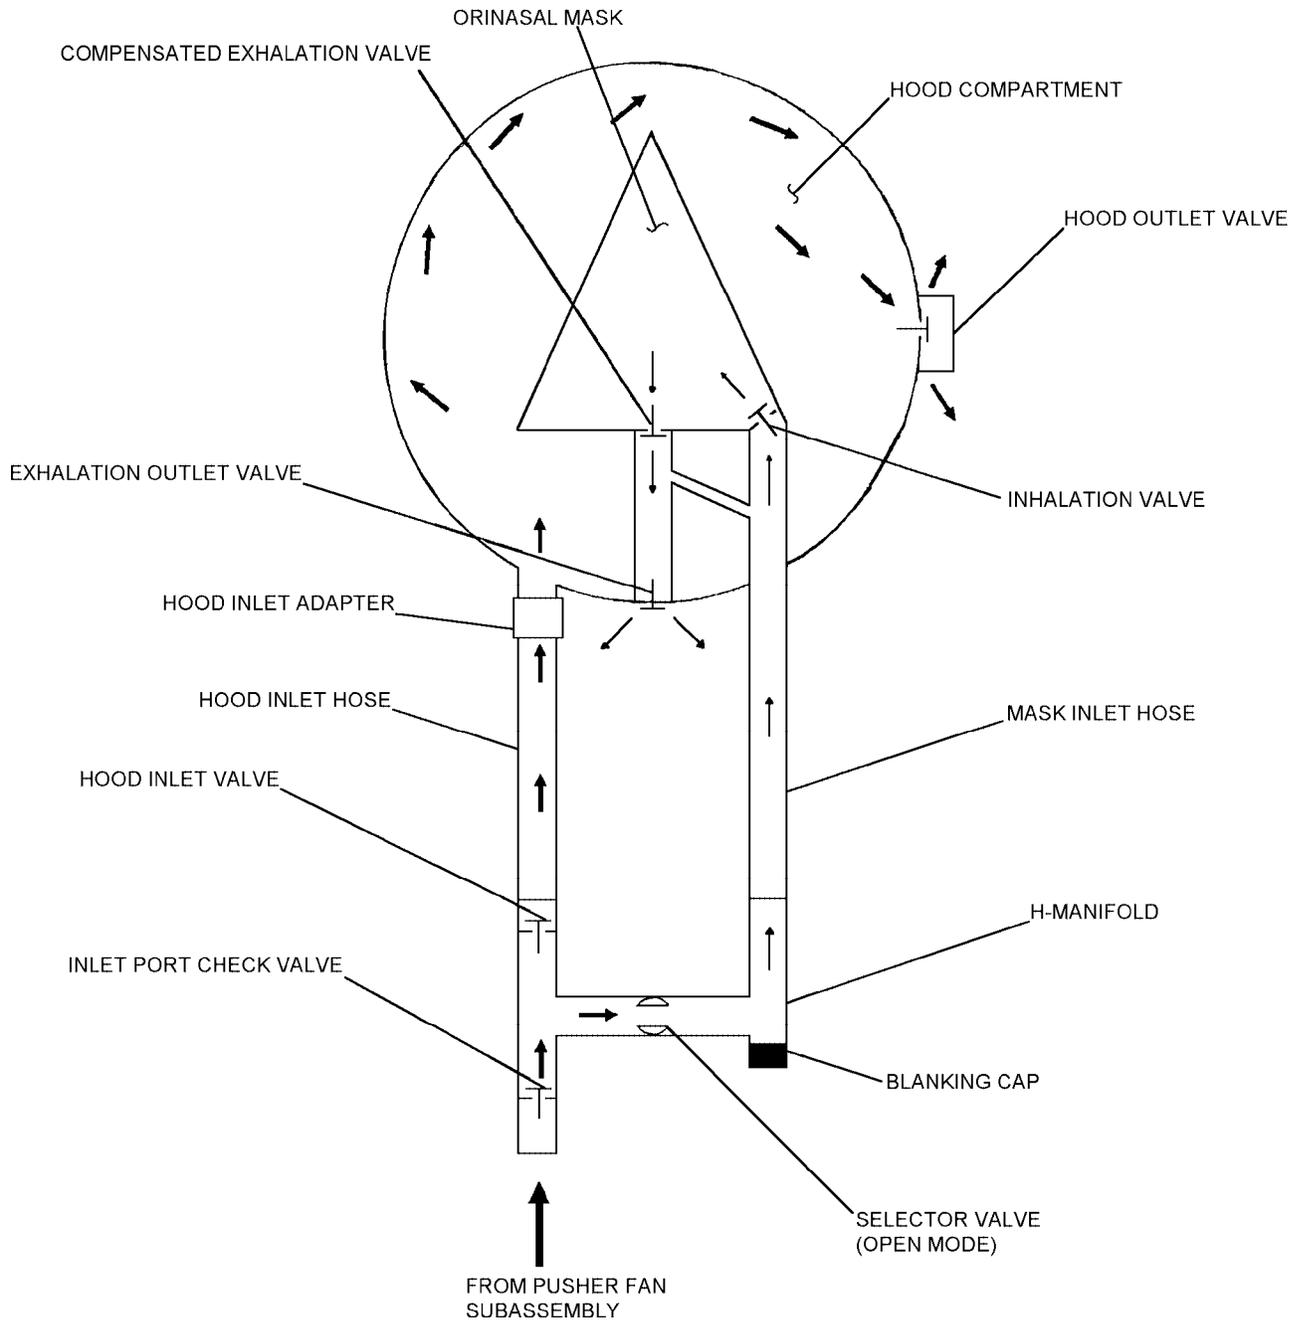

Figure 4-34. Filtered Air Flow to Orinasal Mask and Hood Compartment - (V)1 Only
4-63. Mask. The inside of the mask is divided into two compartments (figure 4-34 and figure 4-35). The mask compartment is made up of the orinasal area within the orinasal mask and the hood compartment comprises remaining area. This configuration provides for separate breathing and ventilation areas and allows pressurized oxygen supply ((V)2 through (V)4 only) to the orinasal mask reducing the breathing effort required. The air supply to the hood maintains a positive pressure which prevents contaminants from entering and reduces wearer heat stress even in hot and humid conditions, while providing faceplate defogging.
**4-70. Lower Assembly.** The (V)1 variant lower assembly provides the aircrewmember with filtered air for both the hood compartment and orinasal mask (figure 4-34). The (V)2 through (V)4 variant lower assembly provides the aircrewmember with filtered air to the hood compartment and filtered, pressurized oxygen to the orinasal mask (figure 4-35).